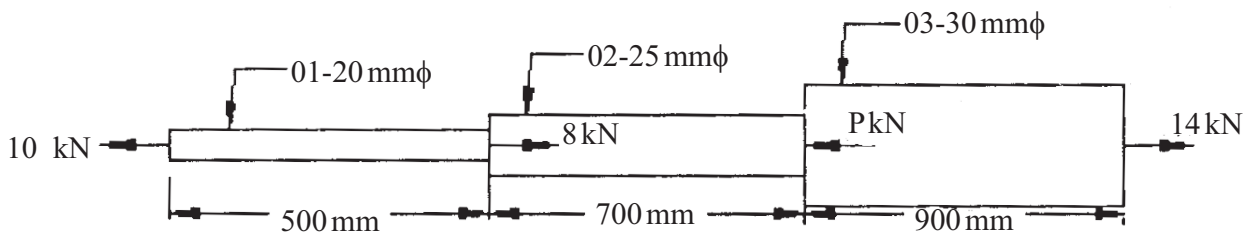

Fig. No. 1
- b) Determine the magnitude of 'P' for equilibrium and total elongation of the bar shown in Fig. No. 1 Take E = 210 GPa. Also calculate minimum stress induced.